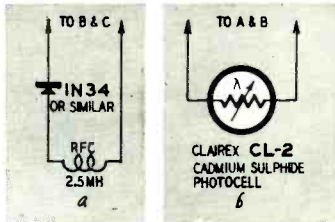

Fig. 3—Two accessories: a—rf detector; b—light sensitive probe.
1. A network made up of an rf coil in series with a crystal diode may be connected between terminals B and C. Any rf picked up from a nearby transmitter is detected and fed to V1. The device becomes a CW monitor, giving a loud, pleasant tone every time the key is depressed. A distance of 2 or 3 feet from a 35-watt-transmitter antenna is about right. The coil need not be tuned—a 2.5-mh choke has been found suitable. The diode must be poled with its cathode toward terminal B (see Fig. 3).